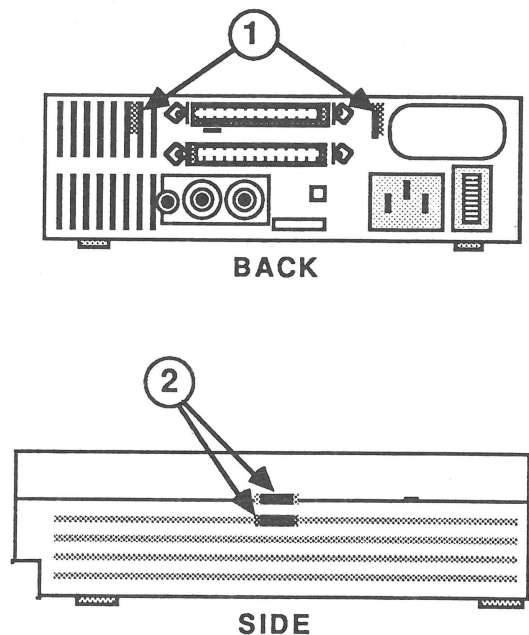

FIGURE 1
1. Locate the two holding tabs on the rear of the hard disk, on either side of the top SCSI connector (Figure 1, #1).
3. Locate the four tab holes, two on each side of the case top (see Figure 1, #2). Starting with the bottom holes, free the tabs by gently inserting the screwdriver **straight** into each of the holes, nudging the case top up as you release each tab. **Prying is not necessary and may damage the case.**